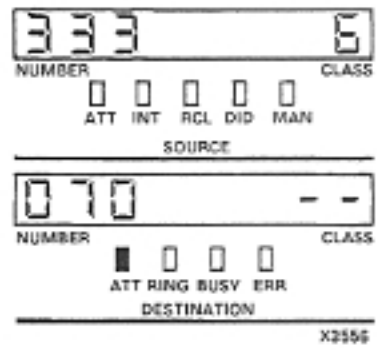

Fig. 302-2
- * SOURCE display (Fig. 302-2) shows number and COS of check extension